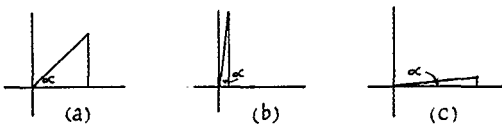

Fig. 4
The sine is the ratio of the opposite side to the hypotenuse. Referring to Fig. 4 (b) we see that as the angle α is made large the length of the opposite side approaches the length of the hypotenuse. If the limiting case where α is made 90° is considered, the sides would coincide and the ratio would be 1 to 1, so the sine would have a value of 1 for α equal to 90° . On the other hand, referring to Fig. 4 (c), we see that as α gets smaller and is made to approach zero, the ratio of opposite to hypotenuse approaches zero. Thus, at $\alpha = 0^\circ$, $\sin \alpha = 0$.
1. Thus for $\alpha = 90^\circ$, $\cos \alpha = 0$ and for $\alpha = 0^\circ$, $\cos \alpha = 1$. These relations can also be seen by referring to Fig. 4.
That $\tan \alpha = \infty$ (symbol for infinity) at $\alpha = 90^\circ$ can perhaps be seen more clearly by referring to Fig. 4 (b) again. The tangent is equal to the ratio of the opposite side to the adjacent side, and thus as the angle α approaches 90° , the opposite side approaches the length of the hypotenuse and the length of the adjacent side approaches zero. Therefore the ratio keeps getting